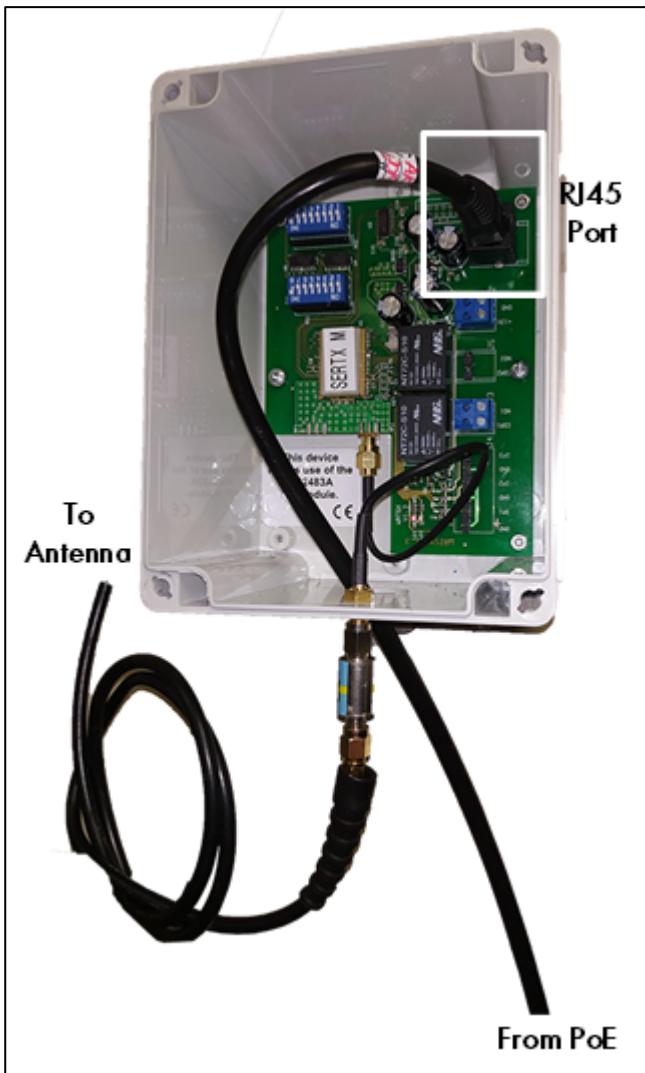

Figure 13: Transmitter Cables
- Figure 13 displays
- Connect the antenna cable (Figure 13).